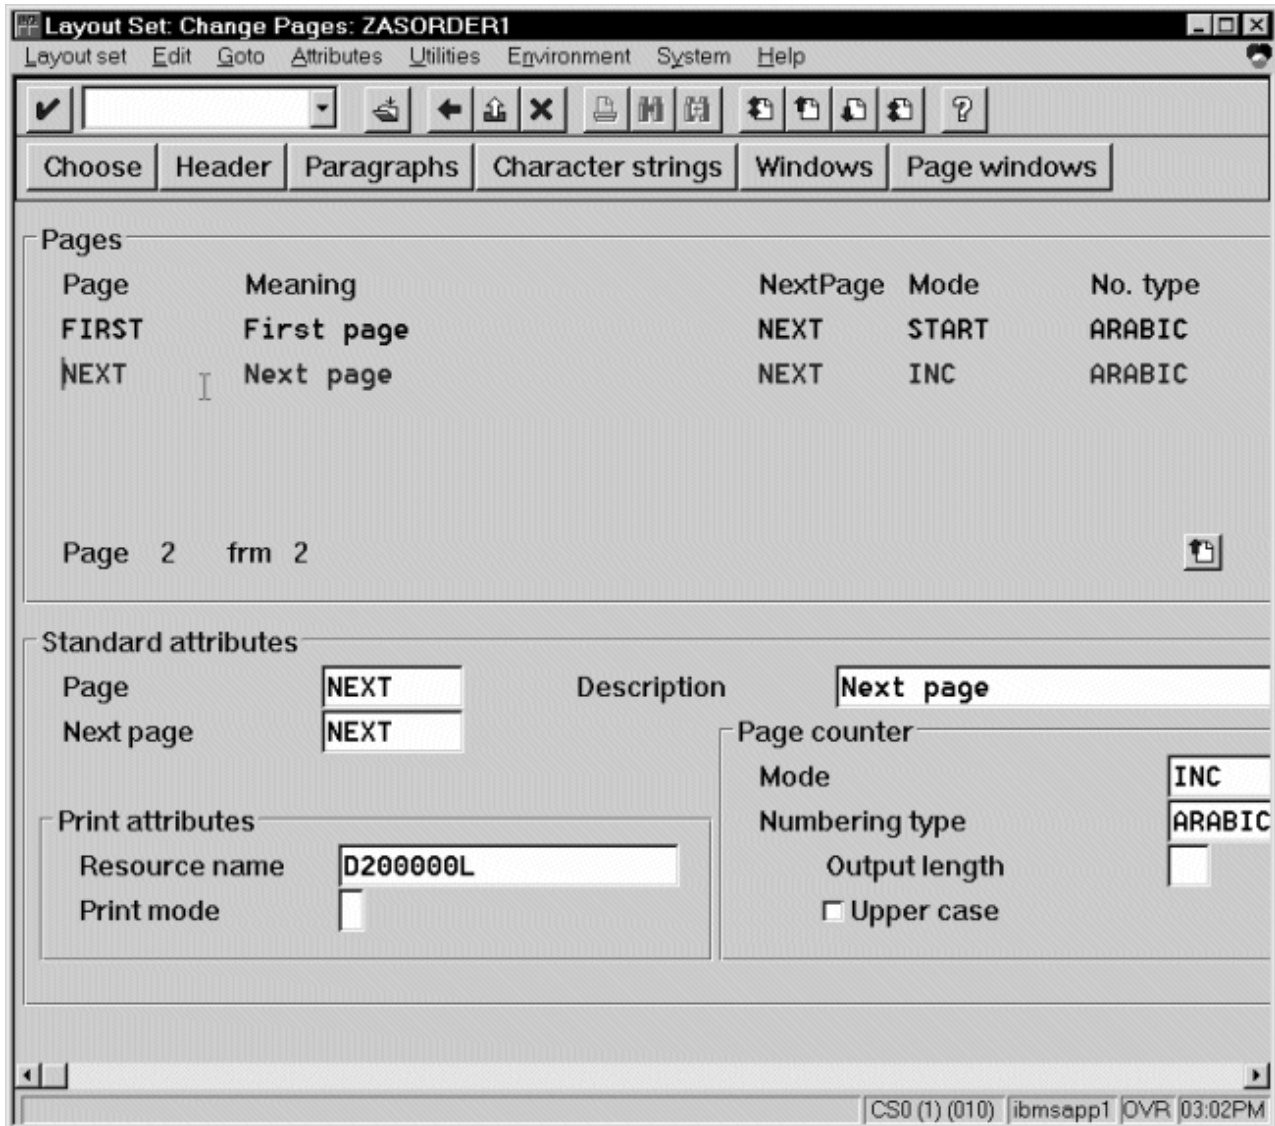

Figure 57. Layout Set Change Pages window, Next page
4. Double-click on the next page that you intend to modify and fill in the **Resource Name** field on the second page as shown in Figure 57: